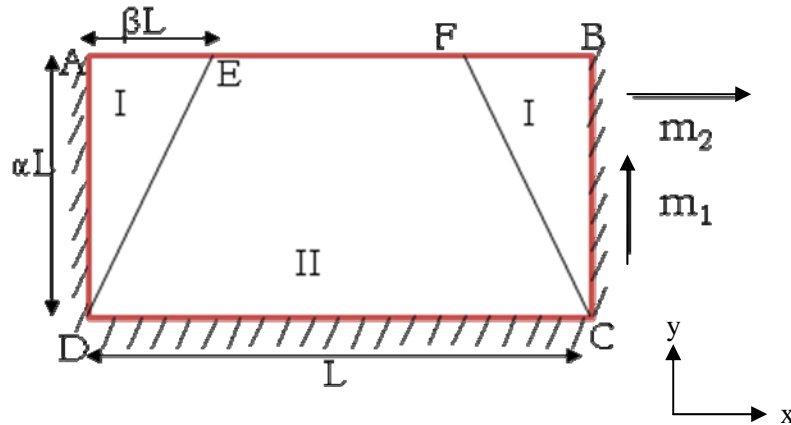

Figure 6
- b) List out the rules of yield line theory. Figure 6 portrays a yield line pattern for a slab supported at three edges only with a uniformly distributed load of w per unit area. The steel in the shorter y -direction provides a moment of resistance of m_2 per unit length and the steel in the longer x -direction provides a moment of resistance of m_1 per unit length. Determine the value of w .